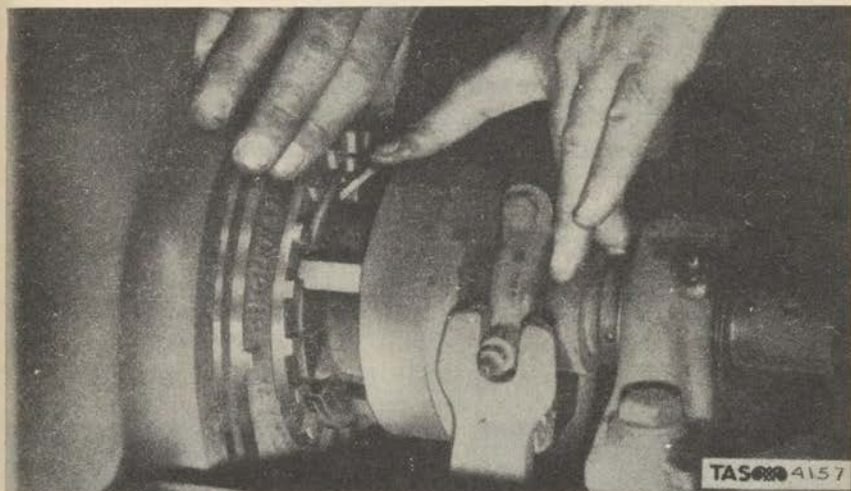

Figure 183. Adjusting the Clutch.
d. Pump clutch. To tighten the clutch, lift the metal tongue out of the slot and revolve the slotted adjusting ring clockwise. (Fig. 183) Ordinarily turning the ring one notch to the right will be sufficient. The metal tongue must drop all the way into the slot in order to lock the adjustment. Too tight an adjustment will strain all parts of the clutch; too loose an adjustment will permit slipping and heating of the clutch. Adjust the clutch only tight enough so that it will not slip under a load.